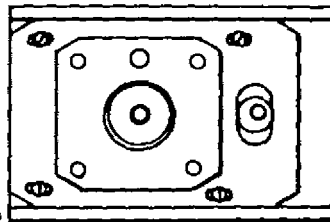

FIGURE 47. MOTOR PLATE
- f. Loosen the two or four mounting screws, which hold the motor plate to the support bracket (Refer to Figure 47).
- h. When the lobes are of an equal amplitude, tighten the motor plate mounting screws (Refer to Figure 47).